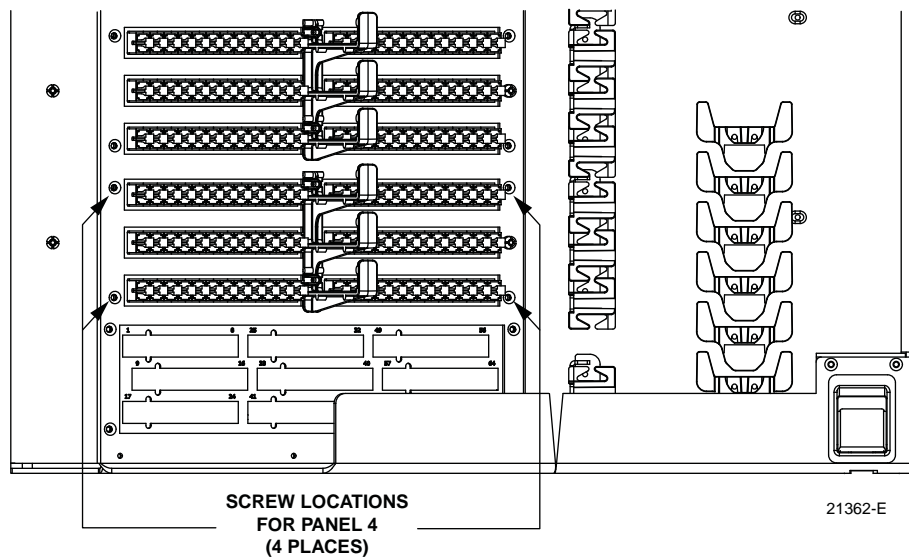

Figure 26. Secure Distribution Panel to Swing-Out Assembly
10. Working from the front, use the four screws provided to secure the front of the distribution panel to the swing-out assembly as shown in Figure 26.